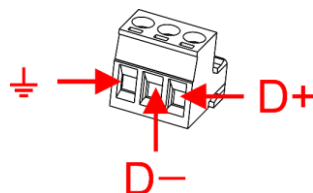

Fig. 10
- 02) Connect a DMX-512 light controller to the device's **3-pin Phoenix terminal connector DMX IN (06)**. Make sure that the cables are connected correctly (see Fig. 10).